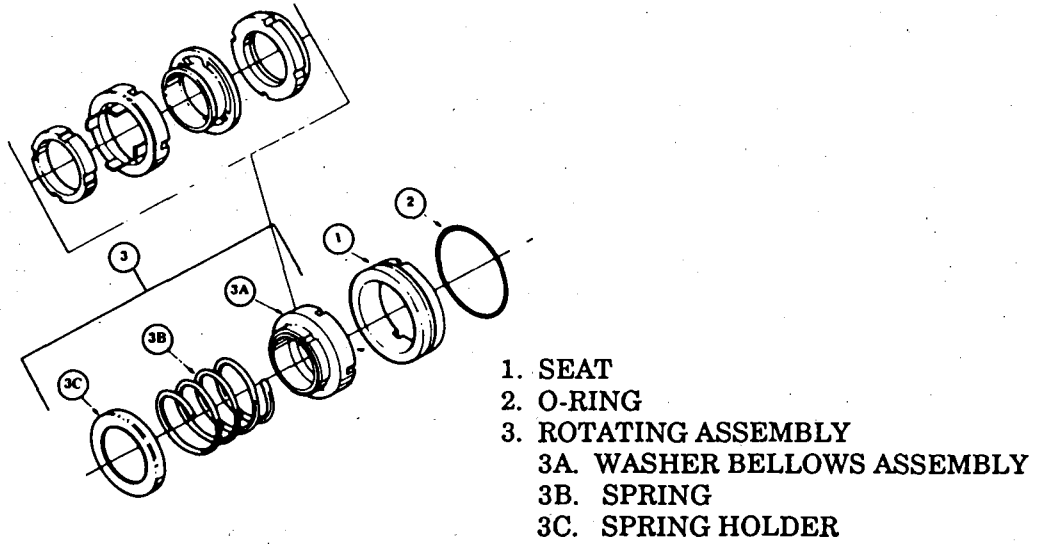

FIGURE 2. Crane Type 21 Mechanical Seal
- (a) Remove retaining ring (015) from groove of power rotor. Support sleeve subassembly (092 or 093) and press power rotor (007) from bearing (011) and sleeve subassembly (092 or 093). Remove bearing (011) from sleeve subassembly (092 or 093). Remove mechanical seal seat (1, Figures 2 and 3) with O-ring (2, Figures 2 and 3) from sleeve subassembly (092 or 093) and remove O-ring from seat, if required. Remove O-ring (094) from groove of sleeve (092 or 093).
- (b) Remove rotating assembly (3, Figures 2 and 3) of mechanical seal (016) from power rotor (007) as outlined below.
- (1) **Crane Type 21 (Figure 2).** Slide rotating assembly 3 from power rotor (007).
- (a) With power rotor (007) and mechanical seal rotating assembly (3, Figures 2 and 3) coated with lubricating oil, install the rotating assembly (3, Figures 2 and 3) on power rotor (007) as follows:
- (1) **Crane Type 21 (Figure 2).** Slide rotating assembly (3) on sleeve (025) until rotating assembly (3) is positioned next to idler stop (009).
- (b) Slide mechanical seal O-ring (2, Figures 2 and 3) in O-ring groove of mechanical seal seat (1, Figures 2 and 3). Align seat (1, Figures 2 and 3) slot with spring pin (095) located in sleeve subassembly (092 or 093) and slide assembled seat in sleeve subassembly. Apply lubricating oil on running faces of mechanical seal seat (1, Figures 2 and 3). Install O-ring (094) in groove of sleeve (092 or 093). Install assembled sleeve subassembly (092 or 093) on power rotor (007) with seal seat (1, Figures 2 and 3) contacting installed rotating assembly (3, Figures 2 and 3).
- (c) Support power rotor (007) and press ball bearing (011) on power rotor (007) shaft, pressing only on bearing inner race until bearing just passes retaining ring (015) groove in power rotor. Install retaining ring (015) in groove of power rotor (007), ensuring that ball bearing (011) is contacting retaining ring (015) and ball bearing is bottomed out against the sleeve subassembly (092 or 093).
- (d) Install assembled power rotor, centering each part as it enters cover (004). NOTE: Sleeve subassembly (092 or 093) drain port is to be aligned with drain port in cover (004).
- (f) Install retainer (012) on cover (004) using bolts (006). Tighten bolts (006) to a torque value of 40 lbs. inch (± 5 lbs. inch).
- (g) Install key (013) and coupling hub on power rotor (007). Install pump on driver and check alignment as described in CA-1 manual. Prime pump to expel all air prior to starting.